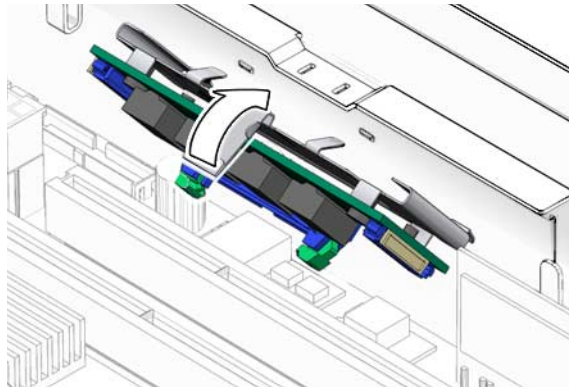

FIGURE 3-80 Swinging the Alarm Board Into Place
3. Swing the alarm board up to the chassis wall until it clicks into place (FIGURE 3-80).